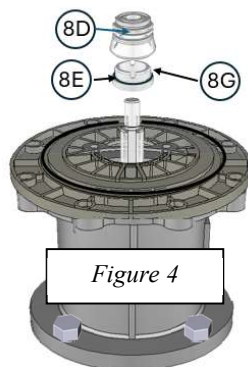
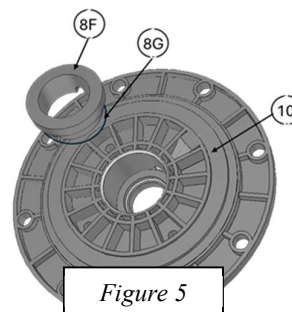

Figure 4
Figure 5
- 3- After removing the impeller, check the mechanical seal, bellows (8D), rotating ring (8E) and o-ring (8G) for wear (Figure 4). Remove the cover (10) from the lantern and check the condition of the static ring (8F) and o-ring (8G) (Figure 5)